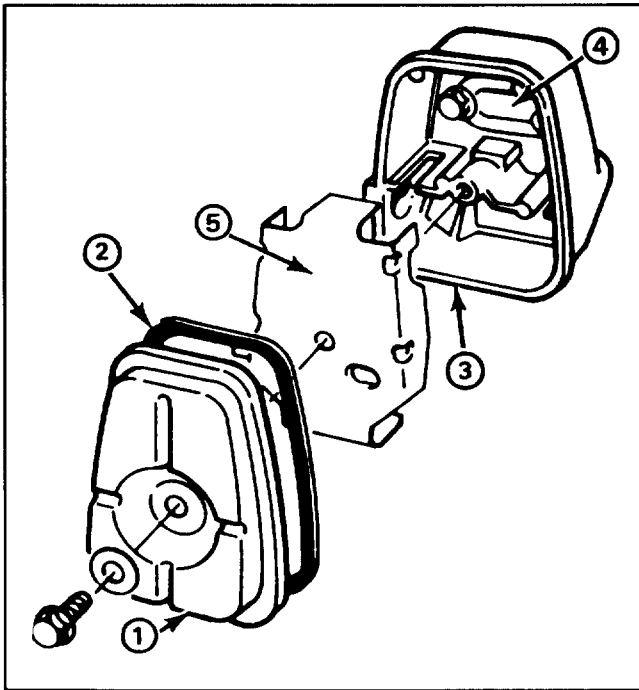

Figure 16
1. Muffler cover      2. Mounting screws (3)
4. Rotate the engine crankshaft until the piston totally covers the exhaust port (Fig. 16). Clean the exhaust port area by using a clean, flat piece of hard wood. Remove all loose particles.